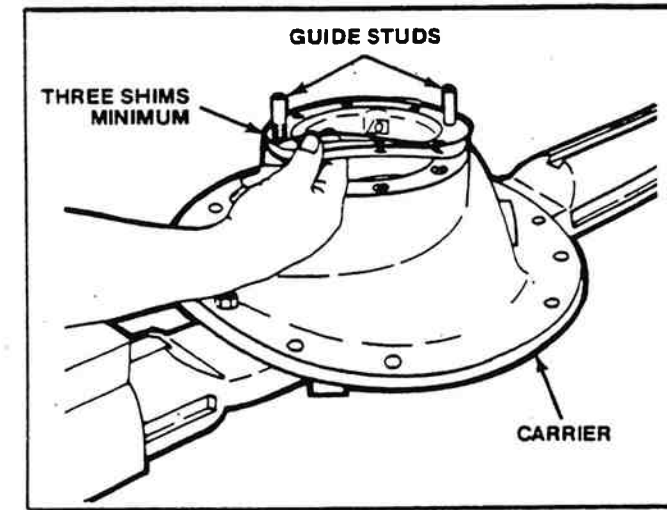

Figure 2-56. Installing Shims.
- Install the correct shim pack between the bearing cage and carrier (Figure 2-56).
- Align the oil slots in the shims with oil slots in the bearing cage and carrier. The use of guide studs will help align the shims (Figure 2-56).